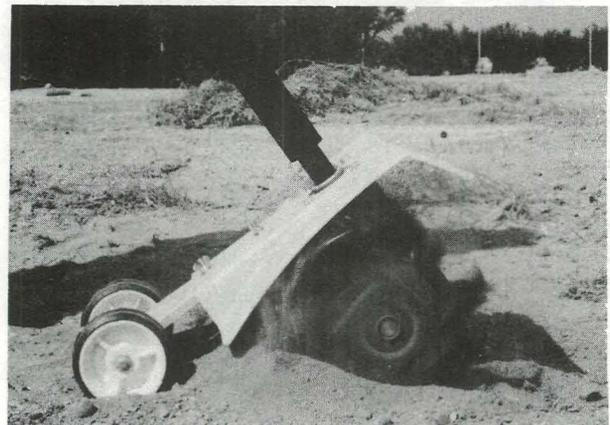

Fig. 24
4. As cultivating action begins, pull back on the cultivator so that the tines can penetrate the ground (Fig. 24).